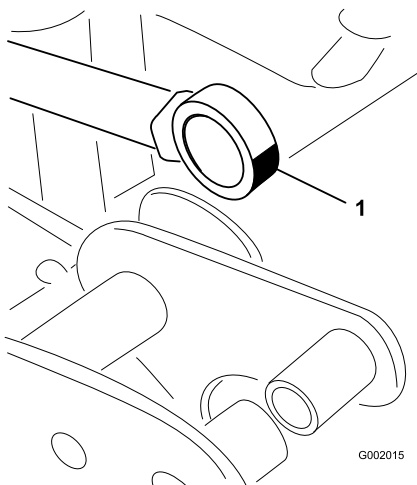

Figure 55
5. Manipulate the actuator rod bearing end and apply grease into the bearing (Figure 55).